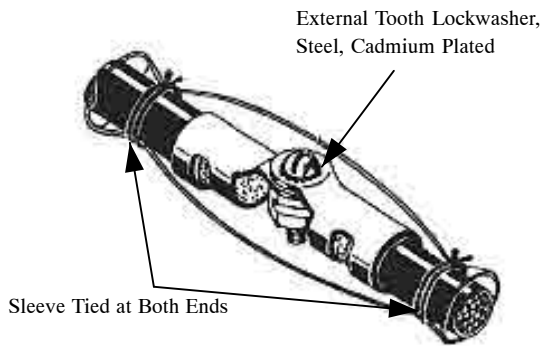

Figure 44. Connecting Thermocouple Splices
61. Connect thermocouple splices as follows (refer to Figure 44):